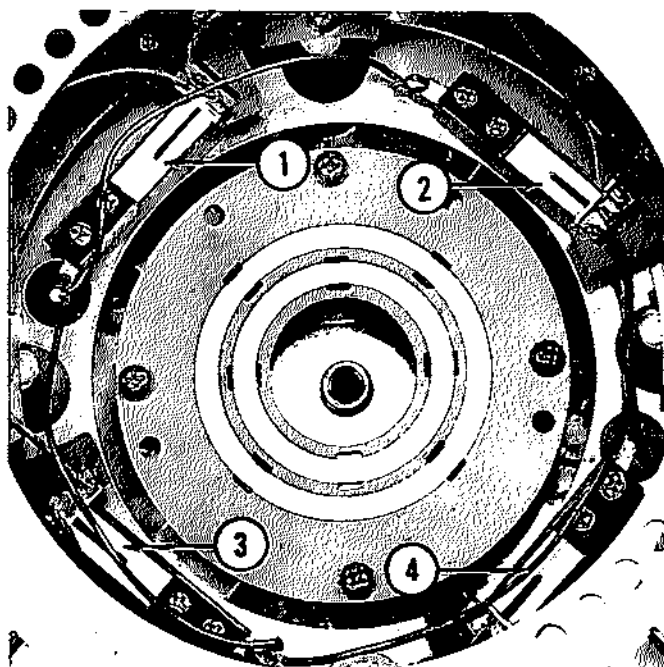

FIG. 24. OVERRIDE SWITCH - ELECTRIC SELECTOR - 2610
(2) 2610 ELECTRIC SELECTOR
The Override Switches are mounted on the Wobble Plate in the 2610 Electric Selector as shown in Figure 24, Items 1, 2, 3 & 4. Selector Pins number B-1, D-6, F-0 and J-6 should be used to check each pair of override switches using the same procedure as described for the 2600 in paragraph (1) above.